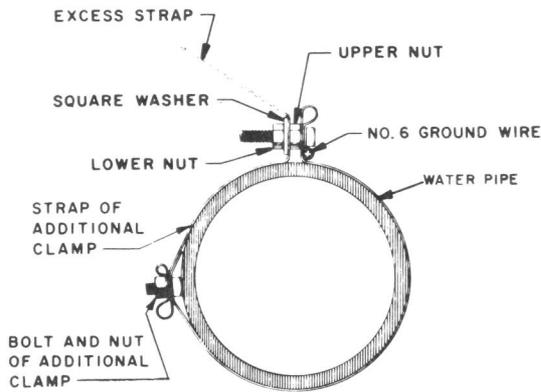

Fig. 52—Attaching L Ground Clamp to Pipes Larger Than 3 Inches
- (5) Bend the strap around the pipe and engage the bolt with the farthest possible hole from the end of the strap. (On pipes larger than 3 inches, fasten two straps together [Fig. 52].)